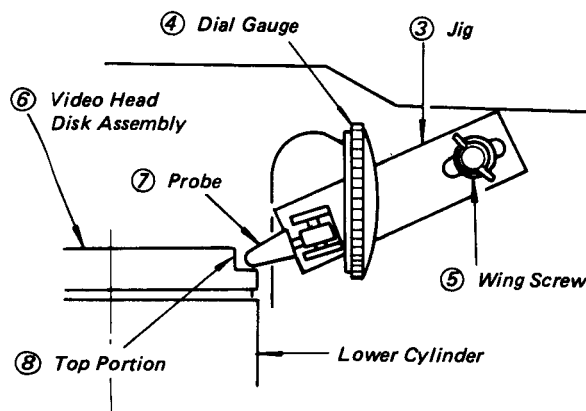

Fig. 5-106 Adjusting the Eccentricity Gauge
1. Loosen the wing screw (5) and adjust the dial gauge (4) so that the needle is at the center of the scale (see Figs. 5-106, 5-107).
2. Tighten the wing screw (5).
3. While gently turning the video head disk assembly (6) clockwise by hand, read the dial gauge (4).